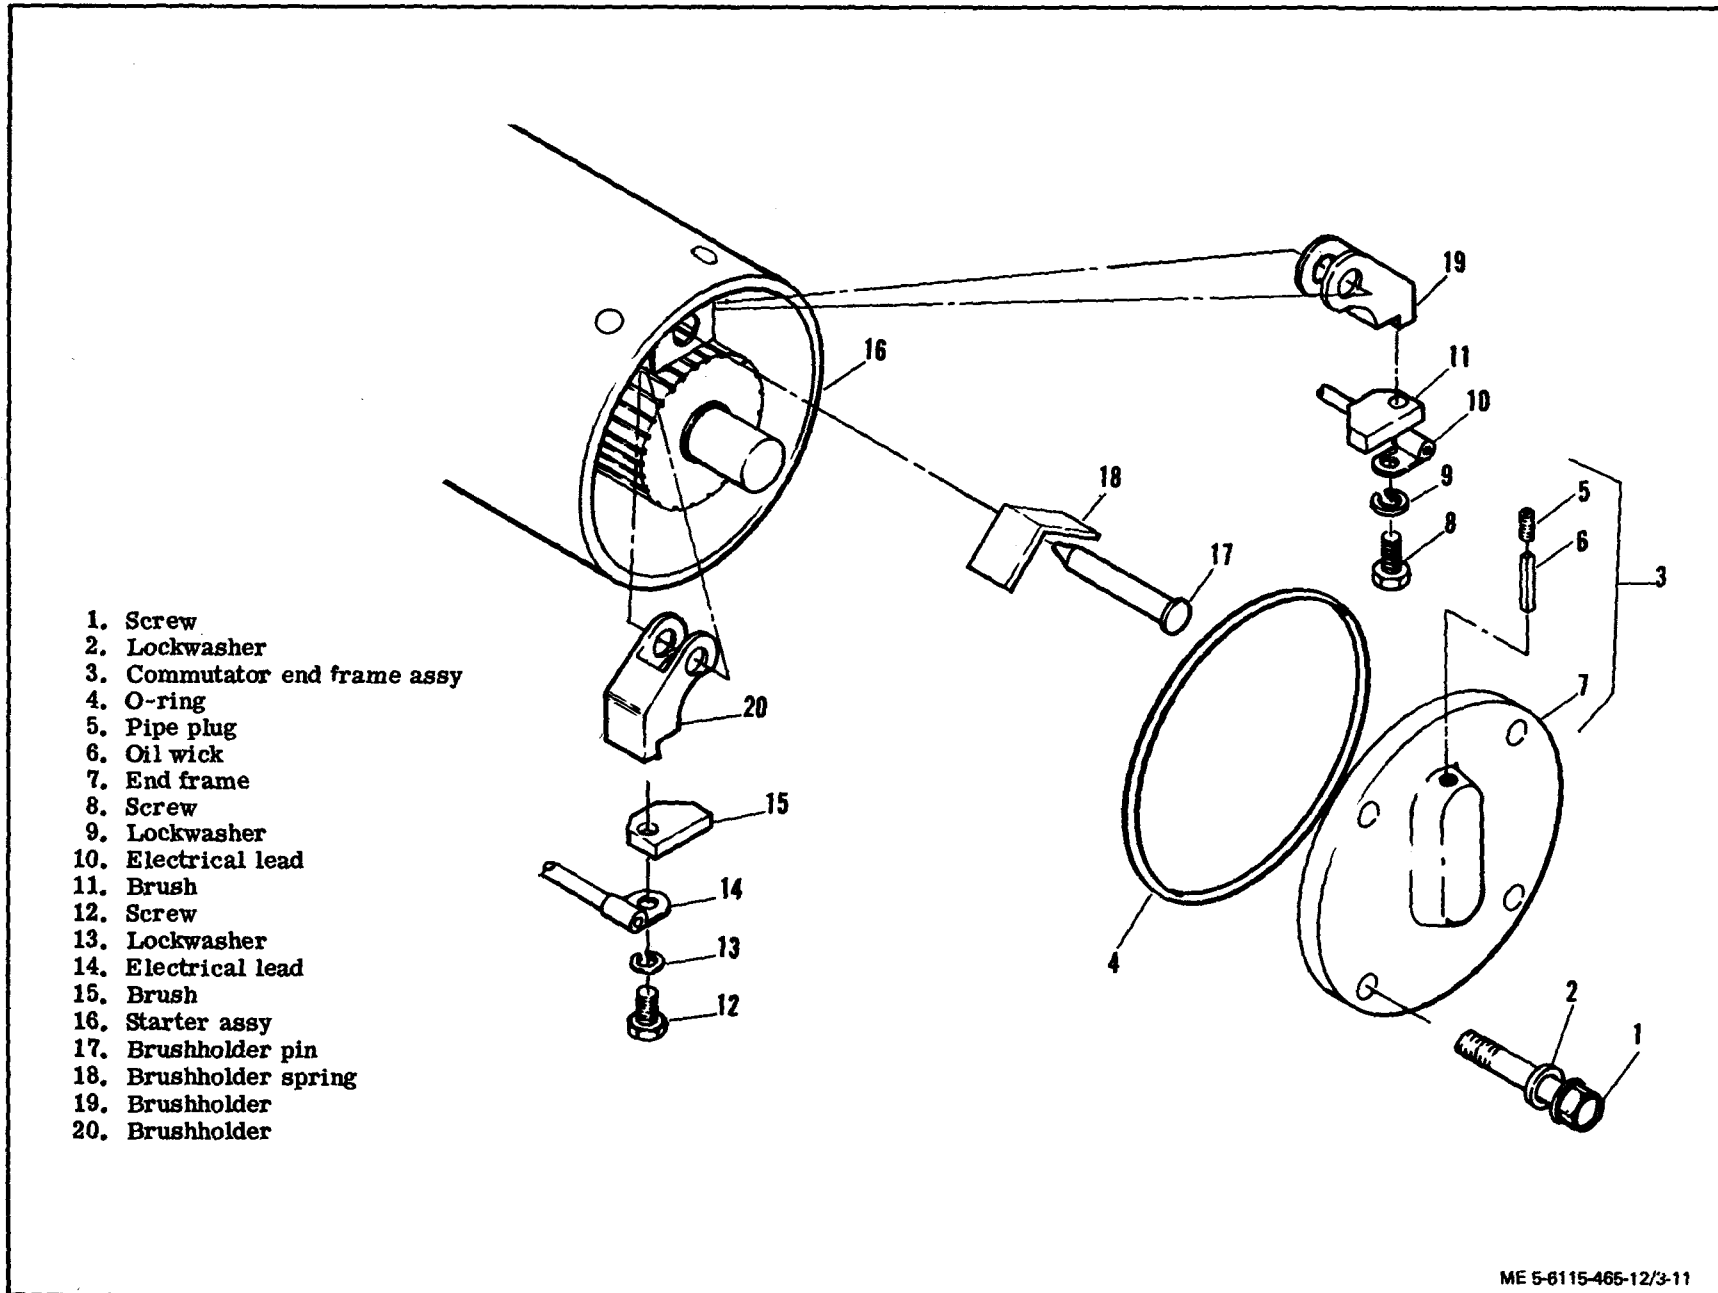

Figure 3-11. Starter Brushes Replacement
(a) Remove screws (1, figure 3-11), and lockwashers (2)